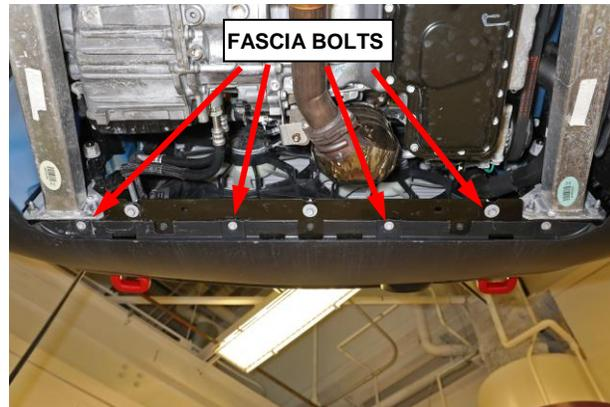

Figure 12 – Trailhawk Fascia Bolts
17. On Trailhawk models, remove the lower row of bolts from the fascia (Figure 12).
32. On Trailhawk models, install the lower row of bolts to the fascia (Figure 12).